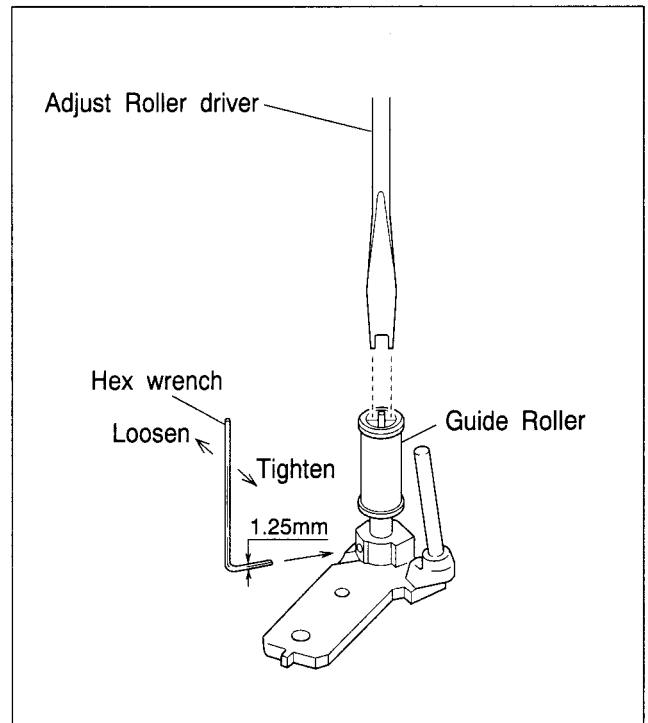
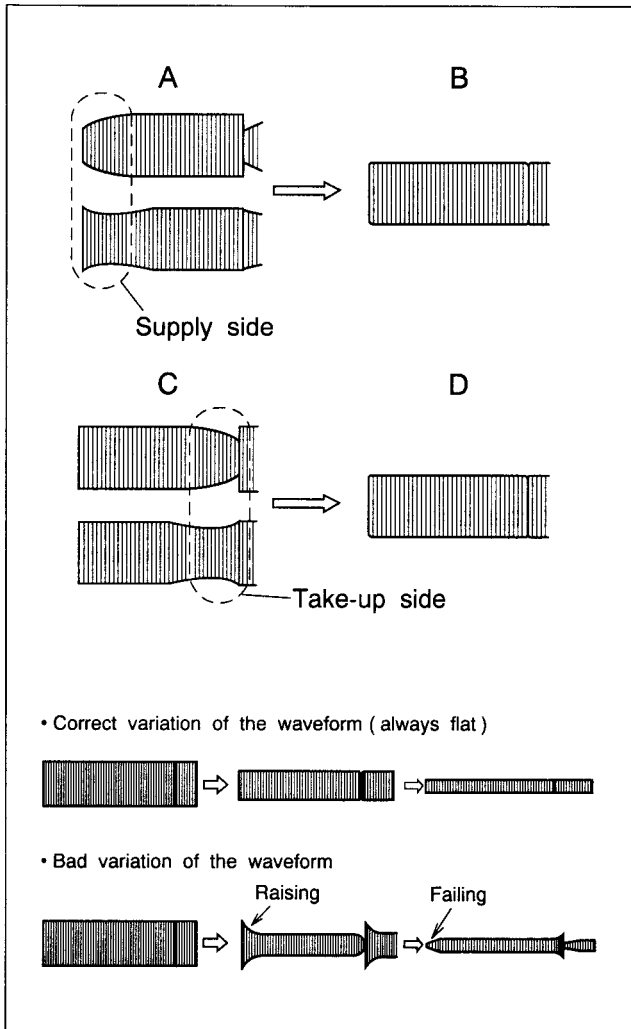
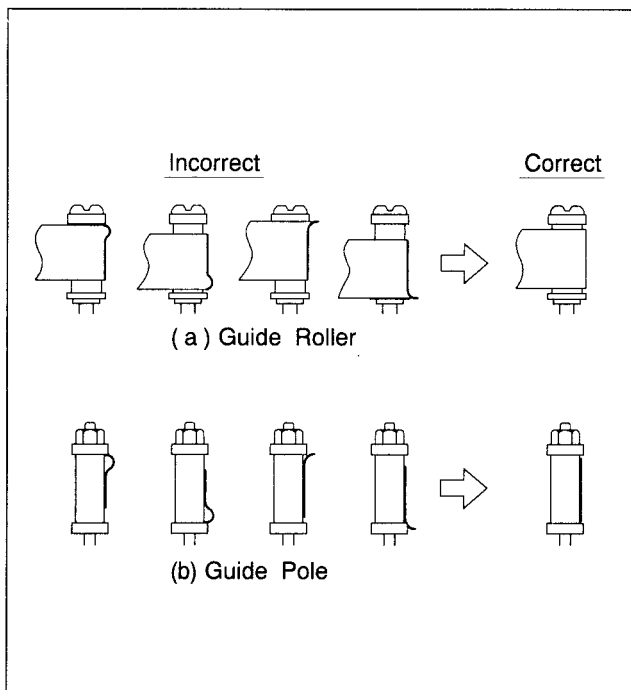

Fig. 2-7-2
Fig. 2-7-3
Fig. 2-7-4
- (6) When the FM waveform does not remain flat during this process,first slightly loosen the set screw located at the bottom of the guide rollers.Using the guide roller adjustment tool (Roller driver) ,adjust the supply and take-up guide rollers (refer to Fig.2-7-2) to obtain the correct waveform as indicated in Fig.2-7-3.
- (7) By pressing the TV PROG buttons several times, vary the FM waveform output from maximum to minimum (and vice versa) gradually,and confirm that the variation proceeds in flat shape, as shown in Fig.2-7-3.
- (8) Next playback the LP stairstep portion of the alignment tape [MHPE-L] and adjust the tracking control from maximum to minimum the FM waveform,confirm that FM waveform variation is always flat.
- (9) Record the signal and play it back in both of the SP and LP mode,confirm that the FM waveform is flat in both mode.
- (10) After adjustments,tighten the set screw of the guide rollers.
- (11) Confirm that the tape wrinkling does not occur at the roller upper or lower limits as indicated in Fig.2-7-4.